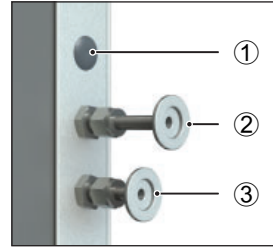
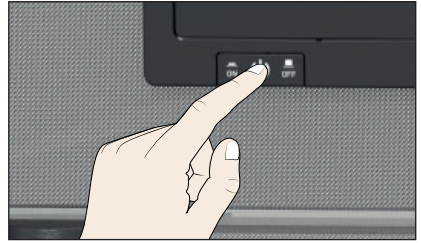

Fig. 21 Connections on the back of VOcool 29 and 49
Fig. 22 Switching on the appliance
Connect the vacuum connection to the back of the unit (Fig. 21 and Fig. 22 ③) to the vacuum pump connection of the pump module or another suitable vacuum pump using the connecting hose.